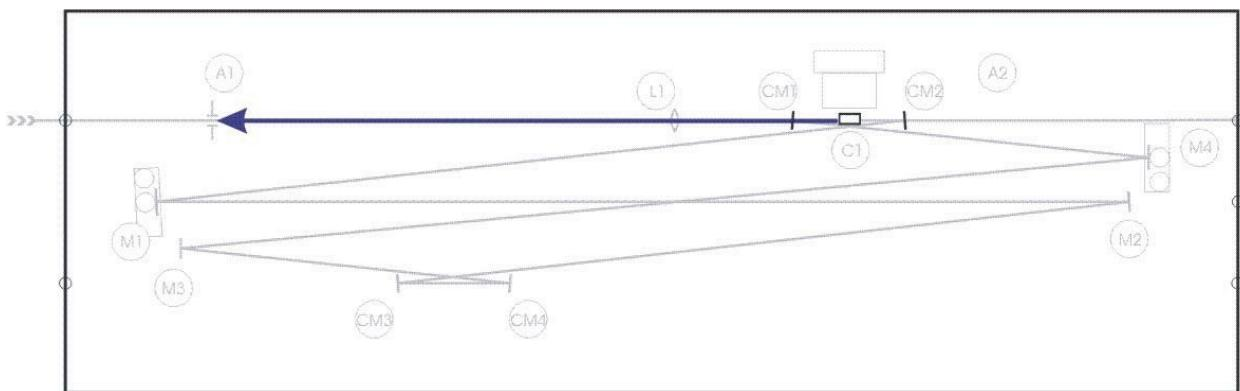

Figure 5.6.: Monitor and align pump back reflections from the crystal.
- First set the crystal back reflection to A1 (Fig. 5.6, make sure aperture A1 is closed and the plug aperture at A3 is removed).